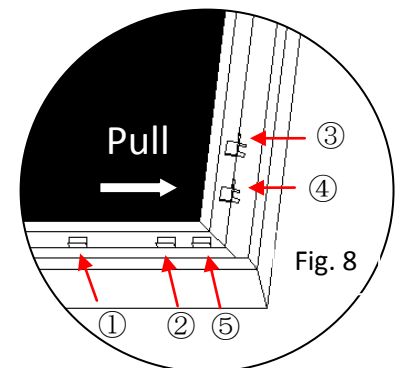

Fig. 8
1. Position yourself left of location ①.
2. Pull the material to the corner of the frame with your hand while your left hand snaps in the fix plate on location ① (the third red dot).
3. Then insert and snap in the fix plate on location ②.
4. Next, move and position yourself on location ③, then pull the edge to the frame and fasten plates on locations ③ and ④.
5. Finally, fasten the last fix plate on location ⑤. (Fig.8)